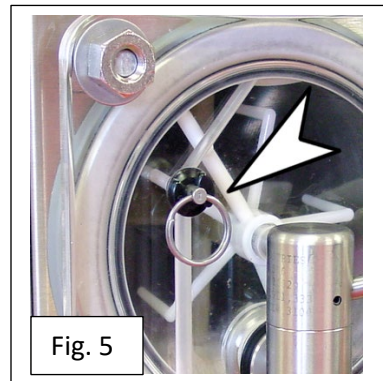

Fig. 5
1. After all items are turned on wait for approx. 2 minutes for unit to stabilize/start filling. Then pull ring on faceplate (Fig. 5) and SLOWLY release CO2 to allow product to start filling the barrel.